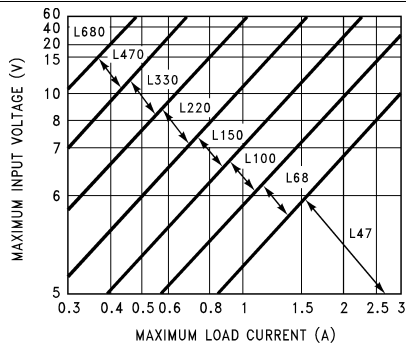
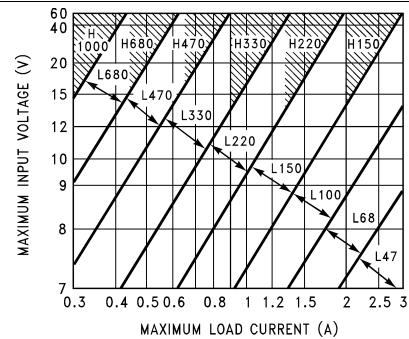
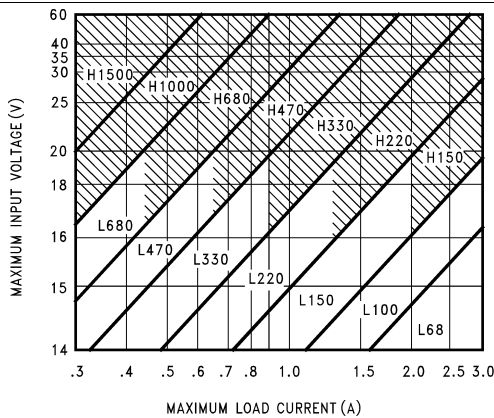
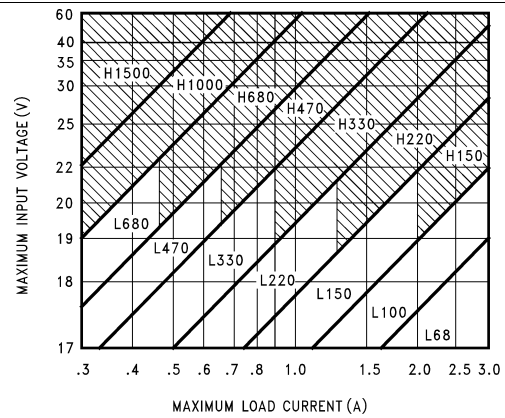

Figure 27. LM2576(HV)-3.3
Figure 28. LM2576(HV)-5.0
Figure 29. LM2576(HV)-12
Figure 30. LM2576(HV)-15
1. Select the correct Inductor value selection guide from Figure 27, Figure 28, Figure 29, or Figure 30. (Output voltages of 3.3 V, 5 V, 12 V or 15 V respectively). For other output voltages, see the design procedure for the adjustable version. Use the selection guide shown in Figure 28.
3. Identify the inductor value from the inductor code, and select an appropriate inductor from the table shown in Figure 27. Part numbers are listed for three inductor manufacturers. The inductor chosen must be rated for operation at the LM2576 switching frequency (52 kHz) and for a current rating of $1.15 \times I_{LOAD}$. For additional inductor information, see Inductor Selection. Inductor value required is 100 μ H from the table in Figure 27. Choose AIE 415-0930, Pulse Engineering PE92108, or Renco RL2444.